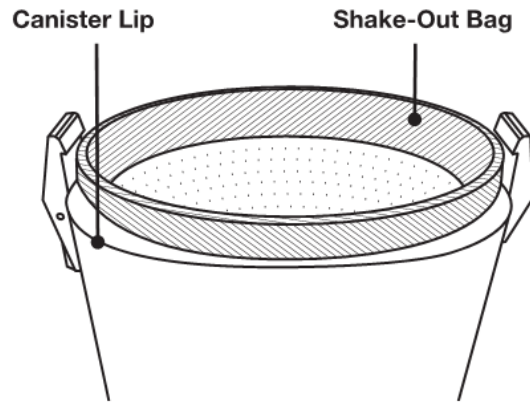

Fig 4
6. Ensure that the shake-out bag is in place (Fig. 4).